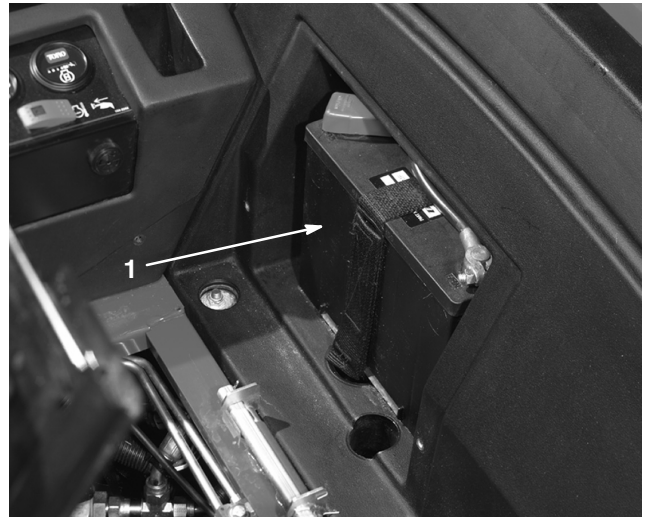

Figure 72
3. Remove the filler caps from the battery (Fig. 72) and slowly fill each cell until electrolyte is just above the plates.